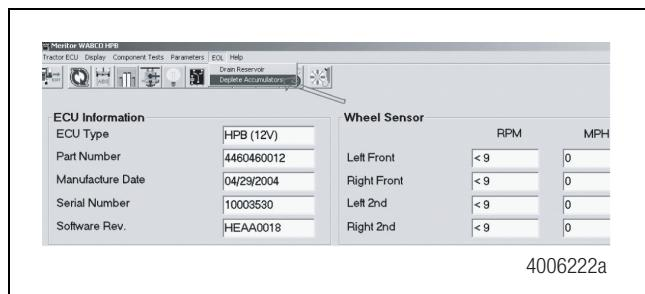
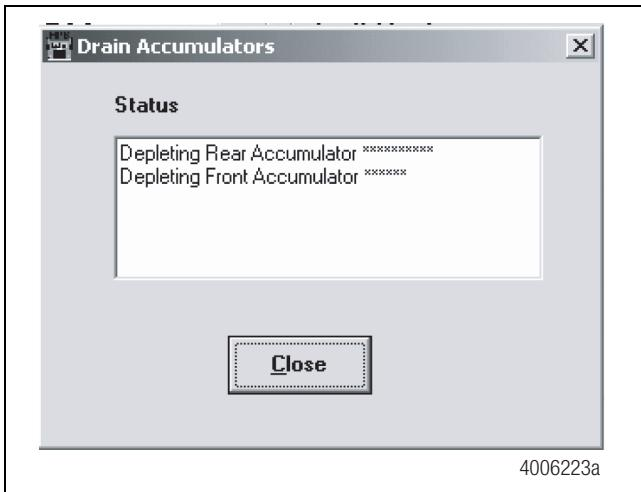

Figure 7
Figure 8
- After the accumulators have fully charged, approximately 2100 psi (145 bar), deplete the system pressure. Under the **EOL** menu on the HPB screen, select **Delete Accumulators**. Figure 7 and Figure 8.